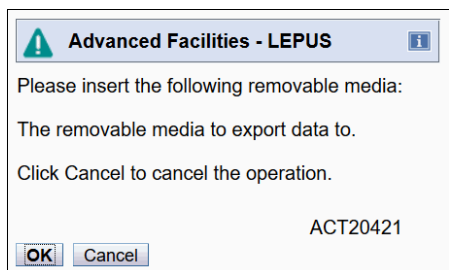

Figure 7-18 ACT20421 window display
6. The HMC displays the ACT20421 window (see Figure 7-18). Click **OK**.